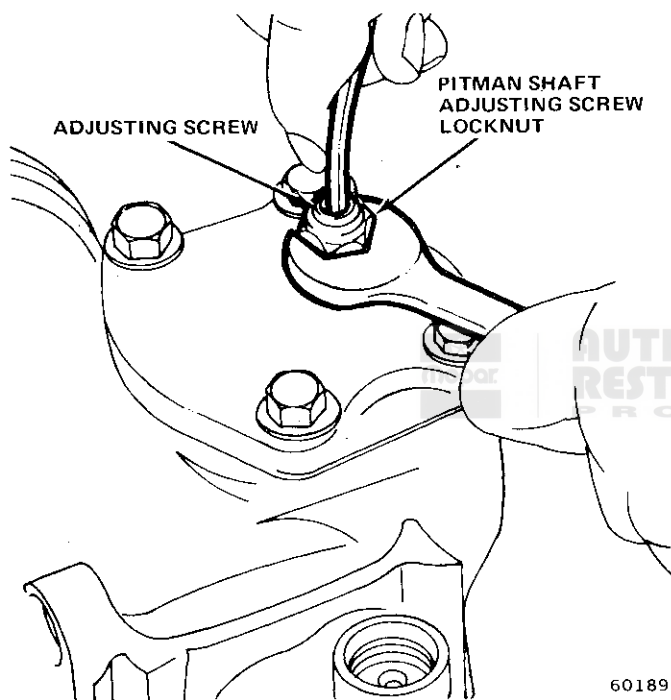

Fig. 2L-14 Adjuster Screw Locknut Removal/Installation
(5) Remove end plug. Install 12-point deep socket and ratchet handle on stub shaft and slowly rotate shaft counterclockwise until rack piston forces end plug out of housing.
- (6) Remove and discard O-ring seal from housing end plug.
- (7) Turn stub shaft 1/2 turn clockwise.
- (8) Unseat rack piston end plug by striking it with plastic mallet.
- (9) Remove rack piston end plug.
- (10) Remove and discard pitman shaft adjuster screw locknut. Use Allen wrench to prevent adjuster screw from turning when removing locknut (fig. 2L-14).